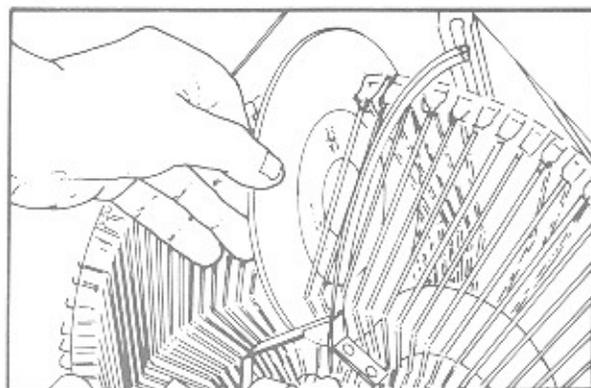

Figure 3-2. Changing a Record
4. Install records as shown in figure 3-2.